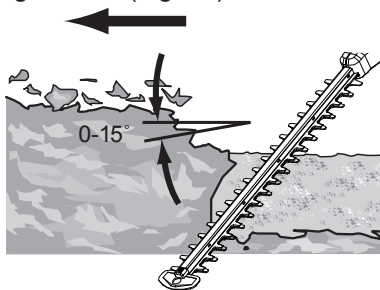

Fig. 13
9. After cutting the sides proceed to the top. Try to keep the cutting device angled at approximately  $15^\circ$  to the cutting surface (Fig. 13).